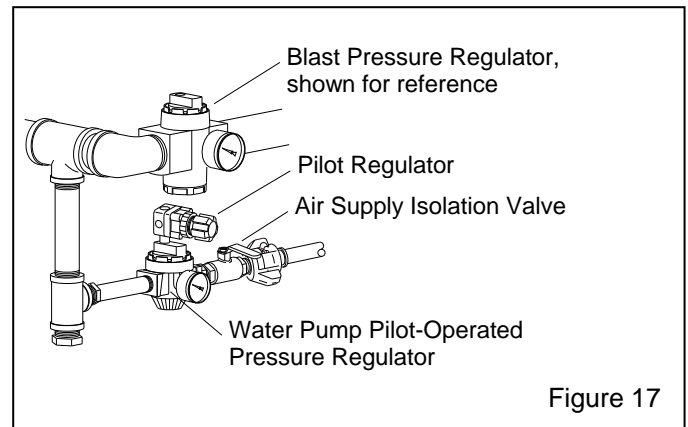

Figure 17
4.1.2.7 Make sure the air supply isolation valve, located on the outlet side of the water pump pilot-operated regulator as shown in Figure 17, to the pump module is closed.
4.1.2.8 Refer to Figure 17 and turn the pilot regulator control knob counterclockwise to approximate "0" psi.
4.1.4.2 Refer to Figure 17 and open the pump's air supply isolation valve.
2. Make sure the air supply isolation valve (shown in Figure 17) to the pump module is closed.